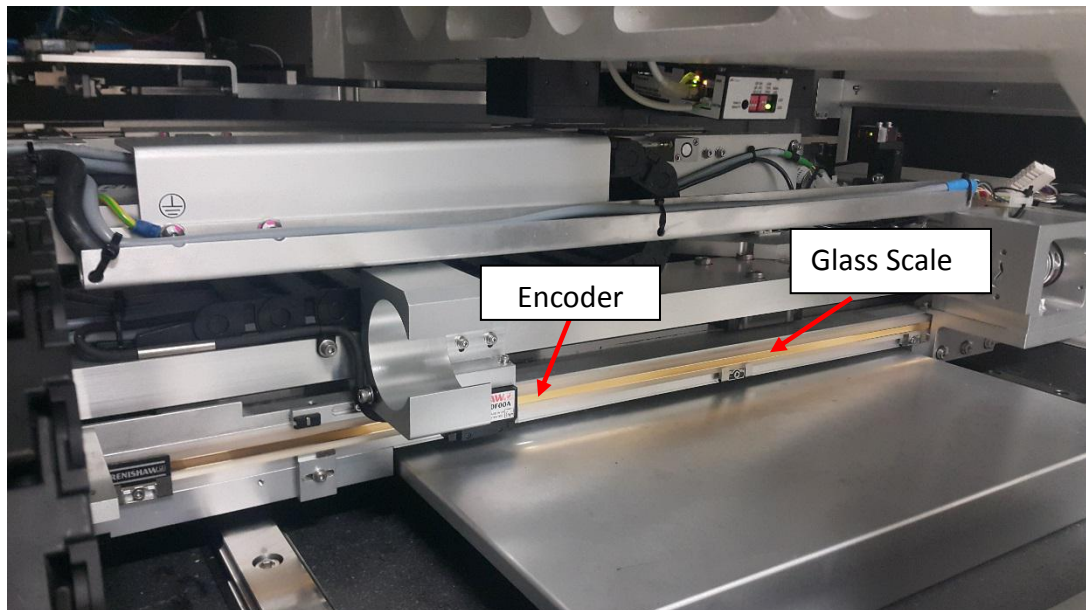

Figure 6 Read Head and Glass Scale
8. Gently remove all screw from the X-Axis stage as shown in Figure 6.